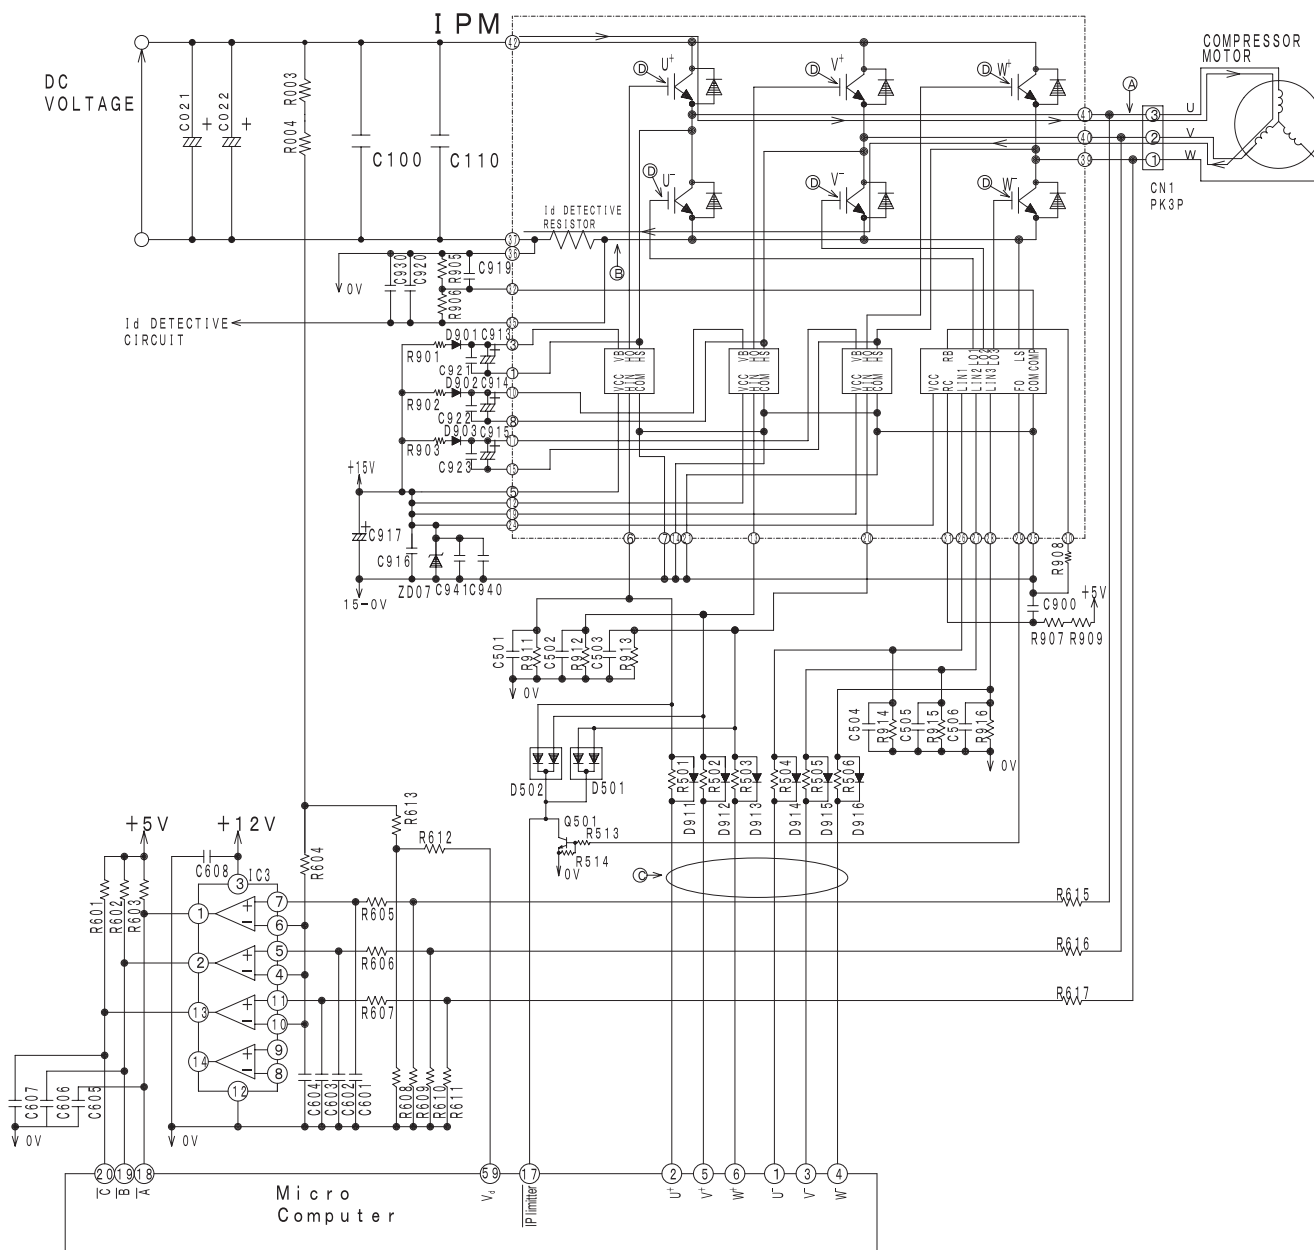
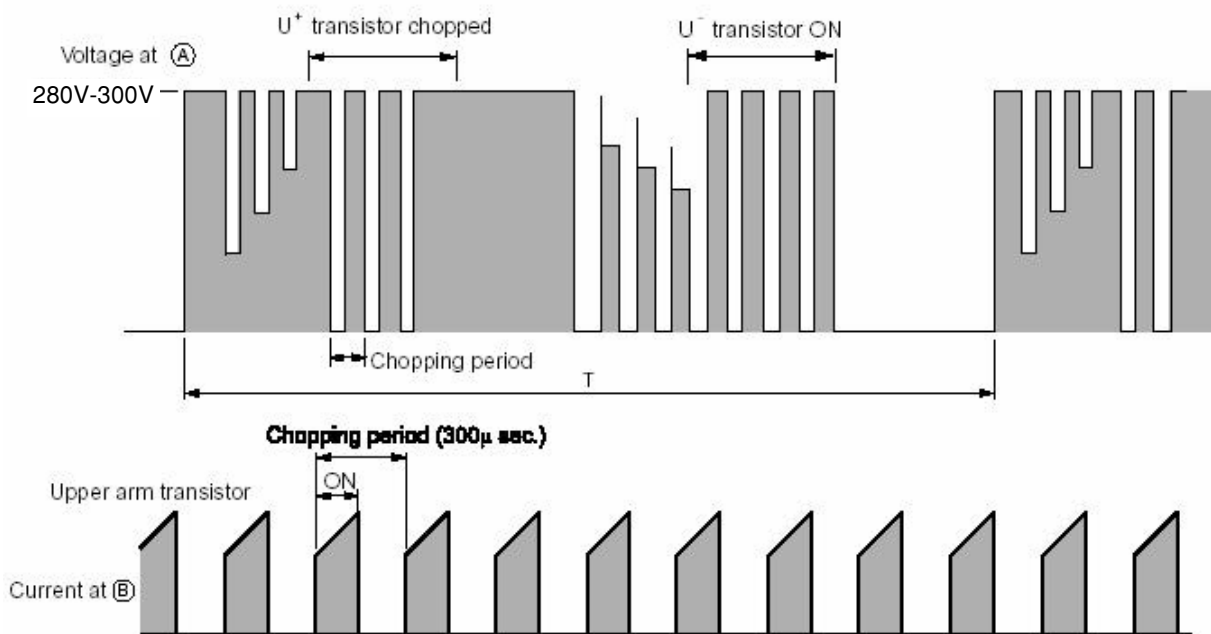

Fig. 4-1 Intelligent power module circuit (U⁺ is ON, V is ON)
Fig. 4-3 Voltage waveform at each point
- Fig.4-1 shows the intelligent power module and its peripheral circuit. The three transistors on the positive e side are called the upper arm, and the three transistors on the negative d side, the lower arm.
At point E: U⁺ is ON, V is ON (circuit in Fig. 4-1)
Fig. 4-3 shows voltage waveform at each point shown in Figs. 4-1 and 4-4. First half of upper arm is chopper, second half is ON, and first half of lower arm is chopper, second half is ON.
Since current flows at point (B) only when U⁺ transistor is ON, the current waveform at point (B) becomes intermittent waveform as shown in Fig. 4-3. Since current at point (B) is approximately proportional to the input current of the air conditioner, input current is controlled by using DC current (I_d) detection resistor.